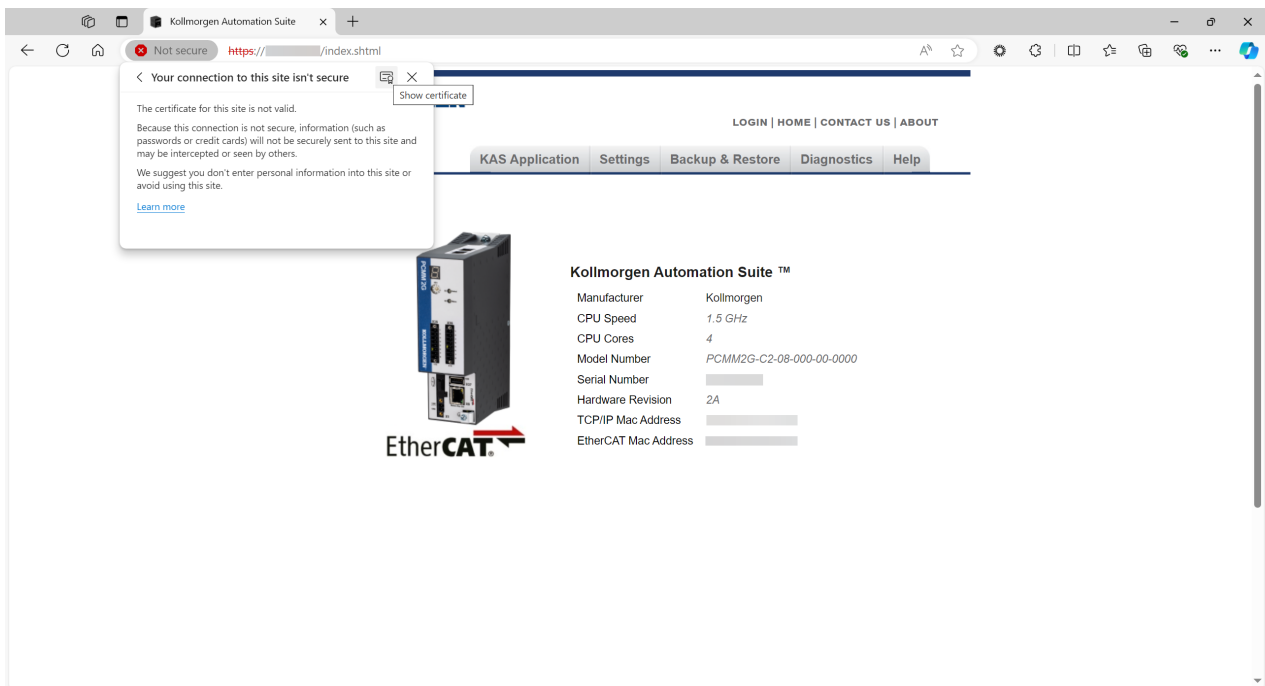

Figure 9-28: Show certificate button
- In the message header, click the **Show certificate** button. (Figure 9-28)